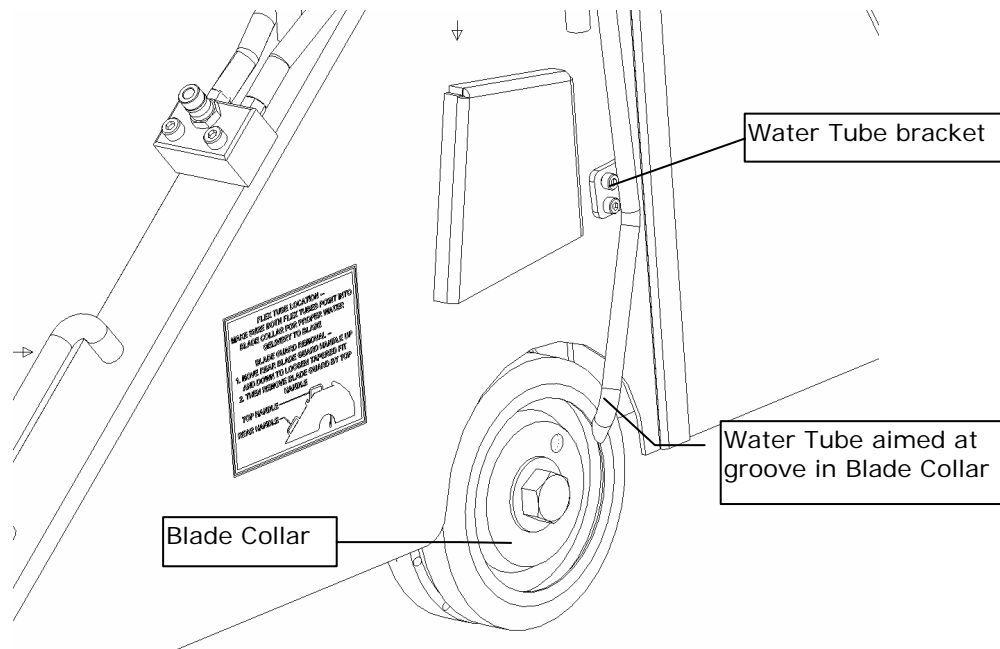

Fig. 10 — Water Tubes and the Blade Collar
4. Ensure that the water tubes are pointed toward the water distribution grooves in the Blade Collars. See Fig. 10